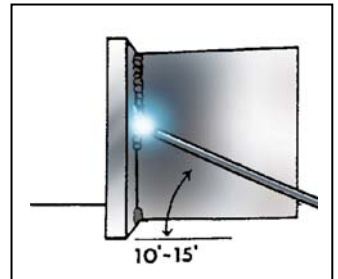

Figure 2
- a. Hold the electrode approximately 10 to 15 degrees below a right angle, so that it is pointed up at the work, and about 45 degrees from each side. Refer to Figures 2 and 3.